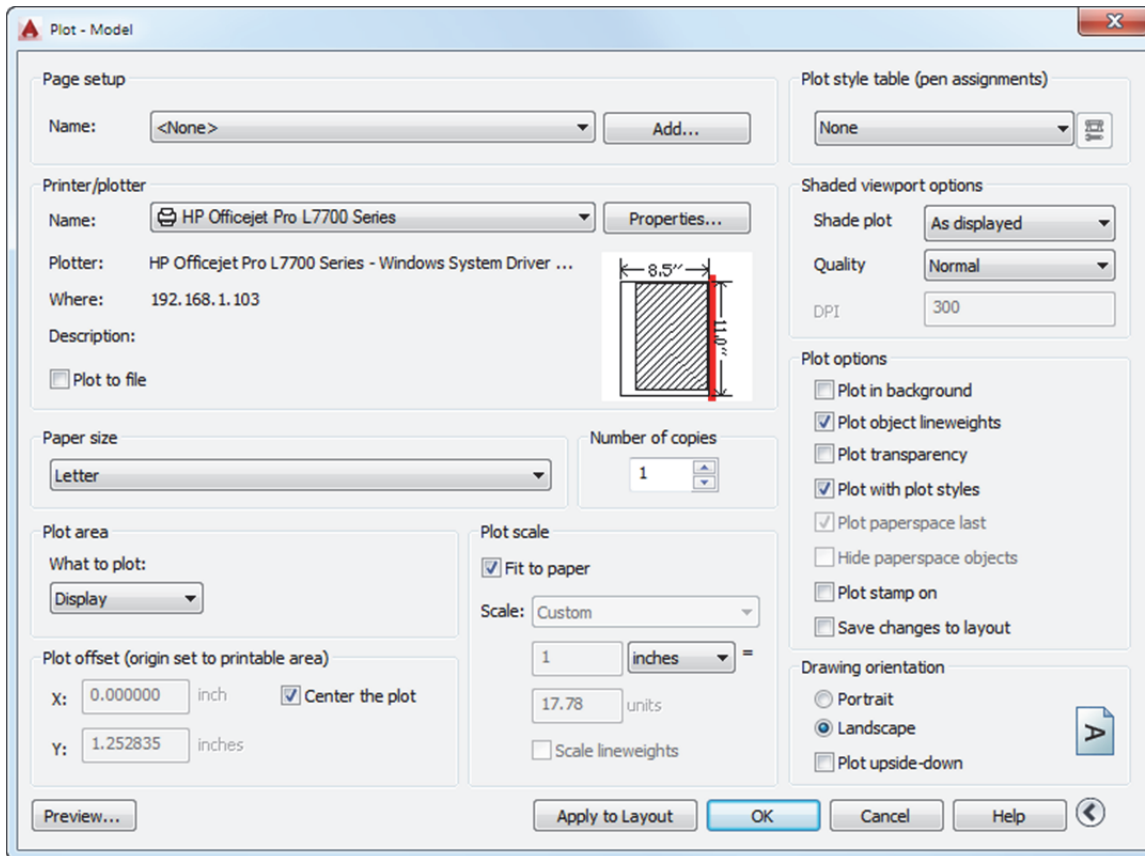

FIGURE 2-5.1 Plot Dialog Box; basic options
You are now in the *Plot* dialog box. This is where you tell AutoCAD what printer or plotter to use, what scale and what size paper, to name a few examples (Figure 2-5.1).
4. Make the following adjustments (Figure 2-5.1):
***FYI:** The Display option (item 4c above) will only plot what is visible on screen; that is why you need to zoom in or out per Step 2.*
5. Click the **Less Options** arrow in the lower right corner of the *Plot* dialog box (Figure 2-5.1).